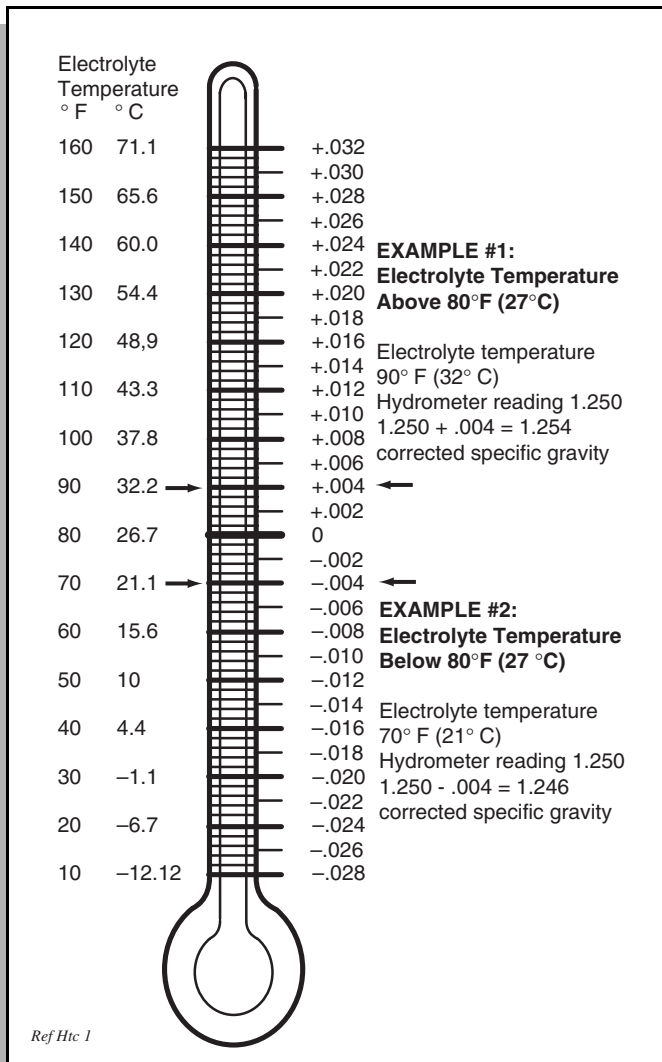

Fig. 28 Hydrometer Temperature Correction
4. Add or subtract four points (.004) to the reading for every 10° F (6°C) the electrolyte temperature is above or below 80° F (27° C). Adjust the reading to conform with the electrolyte temperature, e.g., if the reading indicates a specific gravity of 1.250 and the electrolyte temperature is 90° F (32° C), **add** four points (.004) to the 1.250 which gives a corrected reading of 1.254. Similarly if the temperature was 70° F (21° C), **subtract** four points (.004) from the 1.250 to give a corrected reading of 1.246 (Ref. Fig. 28 on page 24).